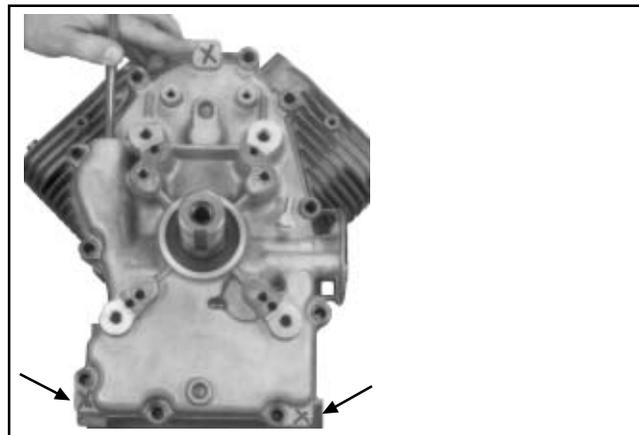

Figure 9-62. Location of Three Splitting Tabs.
2. Locate the three splitting tabs that are cast into the perimeter of the closure plate. Insert the drive end of a 1/2" breaker bar between the top splitting tab and the crankcase. Hold the handle horizontal and pull toward you to break the RTV seal. If necessary, pry at the bottom tabs also. See Figures 9-62 and 9-63. Do not pry on the sealing surfaces as this could cause leaks. Carefully pull closure plate from crankcase.